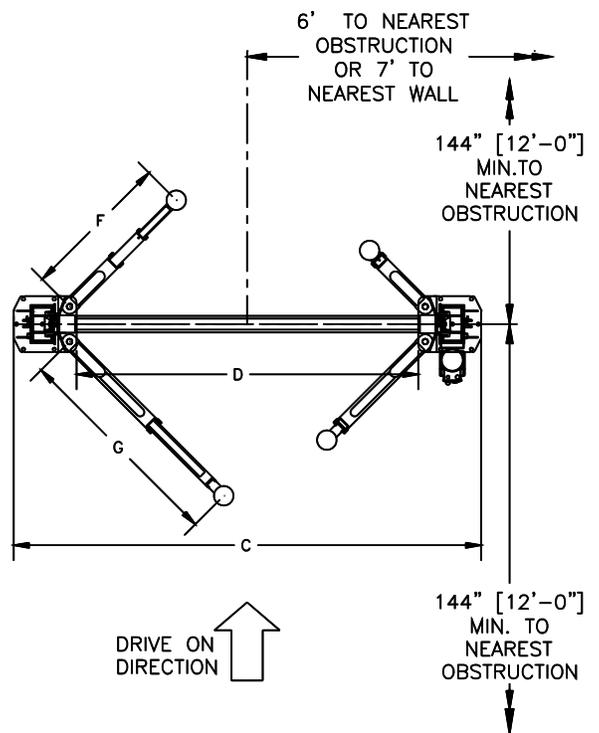
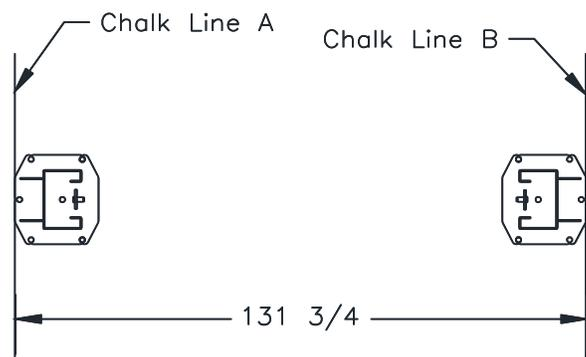

Fig. 1b - Service Bay Layout
Fig. 2 – Baseplate Layout
- Layout the service bay according to the architect's plans or owner's instructions (**see Fig 1b**). **Failure to install in this orientation can result in personal and property damage.** Be certain that the proper conditions exist, see **Pg 3**.
- Using the Overall Width (C) Dimension from **Fig 1b**, chalk two parallel lines on the floor within 1/8" tolerance. Erect both column assemblies. Align the base plate edges to the chalk lines. See **Fig 2**.